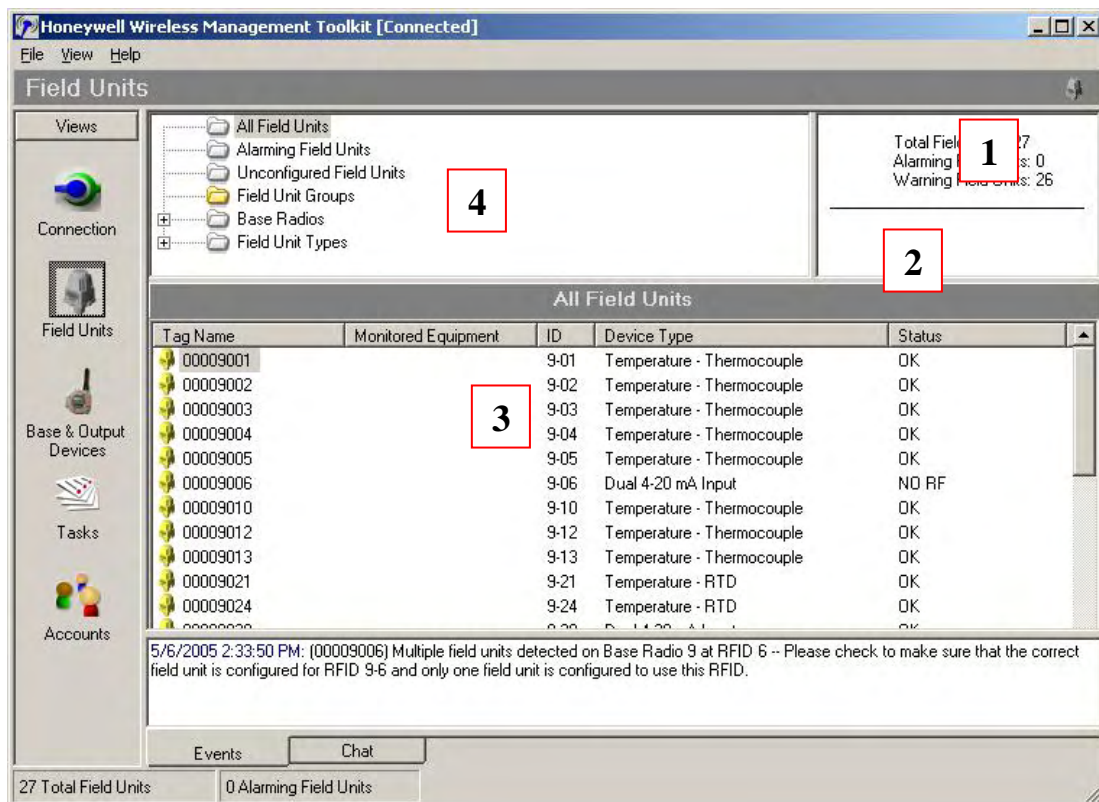

Figure 8-1: Field Unit (Transmitter) View
The view you will see upon connection is the Field Unit View. This view shows the Transmitter information, and allows you to configure and view individual Transmitter data. This view can be accessed at any time by clicking on the Field Units icon in the Views pane. The Field Unit View is shown in Figure 8-1.
Each of the four numbered areas in Figure 8-1 is explained in the following sections in order.
**Note** *Transmitters are often referenced throughout the software by two numbers, such as 1-1 in Figure 8-1. The first number refers to the Base Radio ID and the second number refers to the Transmitter RF ID.*